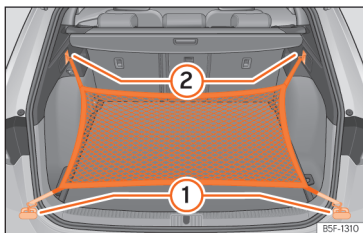

Fig. 196 In the luggage compartment: rings ① and hooks ② for attaching the net bag.
- Secure the short net hooks to the fastening rings »» Fig. 196 ① »» ⚠. The bag zip should be facing upwards.
- Secure the straps in the bag hooks ②.